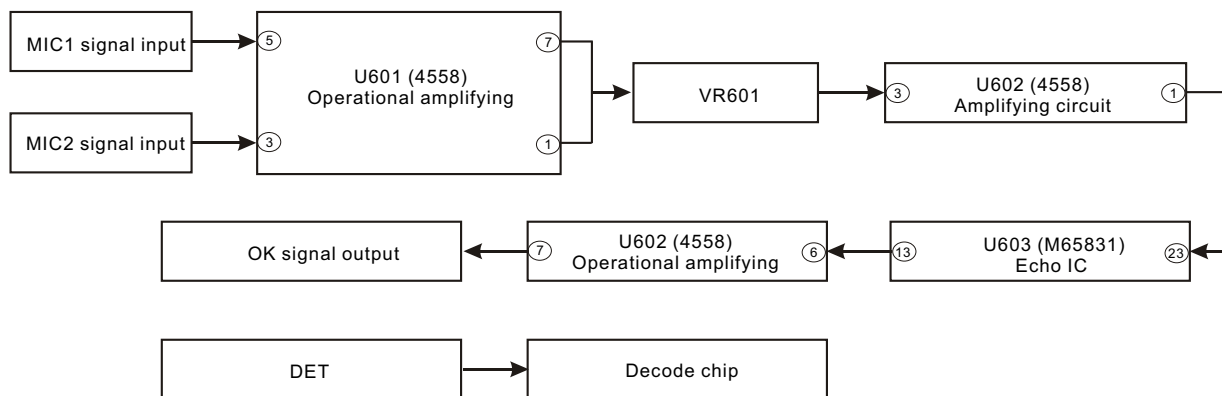

Figure 3.2.10.1 MIC circuit block diagram
1. MIC circuit block diagram is shown as the following figure 3.2.10.1: